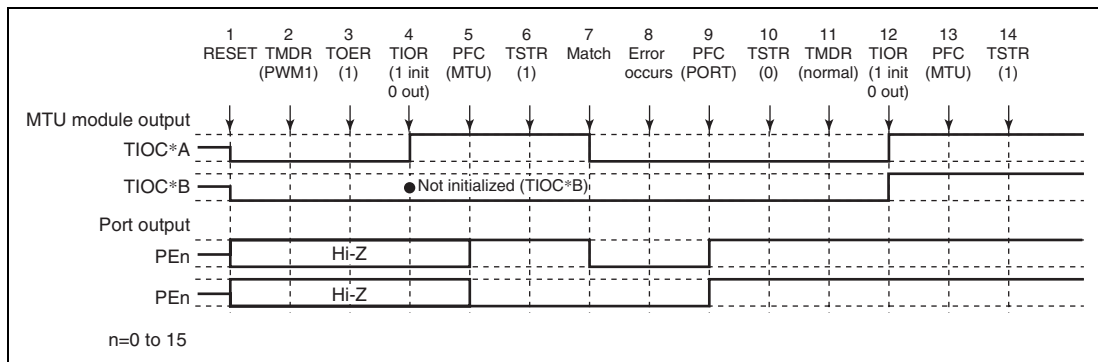

**Figure 11.91 Error Occurrence in PWM Mode 1, Recovery in Normal Mode**
**Operation when Error Occurs during PWM Mode 1 Operation, and Operation is Restarted in Normal Mode:** Figure 11.91 shows an explanatory diagram of the case where an error occurs in PWM mode 1 and operation is restarted in normal mode after re-setting.
1 to 10 are the same as in figure 11.91.